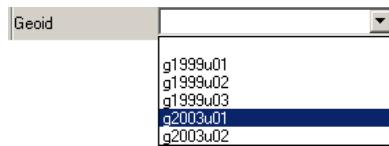

Figure 3-75. Select Geoid Model
- Select a geoid model (Figure 3-75).